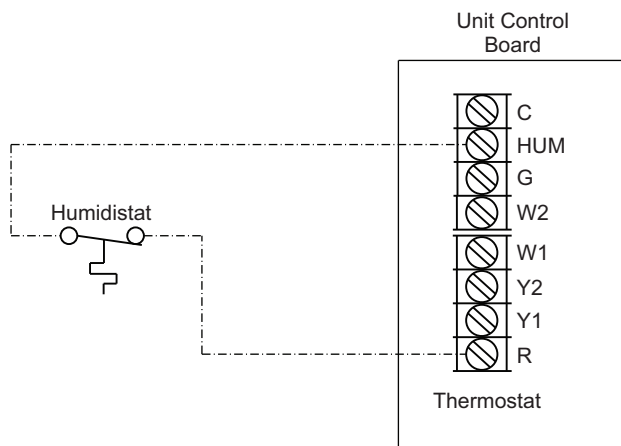

Fig. 40 — Humidistat Connections to UCB
5. Connect one of the leads from the 2-conductor cable to the HUM terminal on the UCB (Unit Control Board). Connect the other lead to the R terminal on the UCB. See Fig. 40.